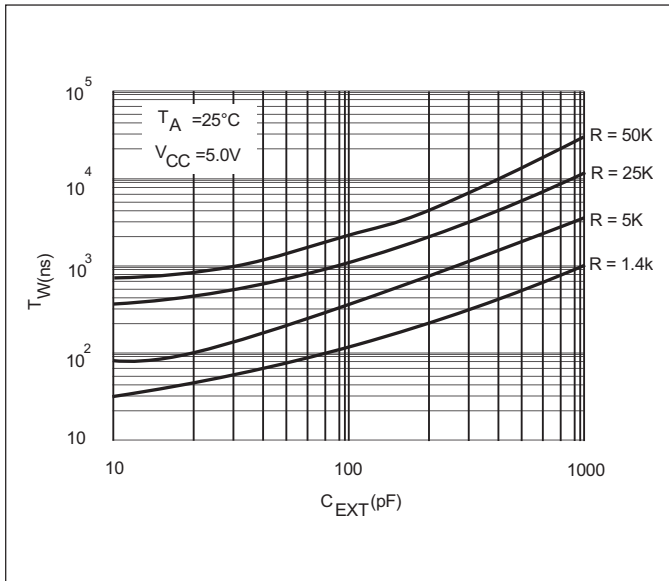

Figure 6. Typical Output Pulse Width vs. External Timing Capacitance
1. To determine the pulse width when $C_x \geq 1000$ pF, refer to Figure 6.